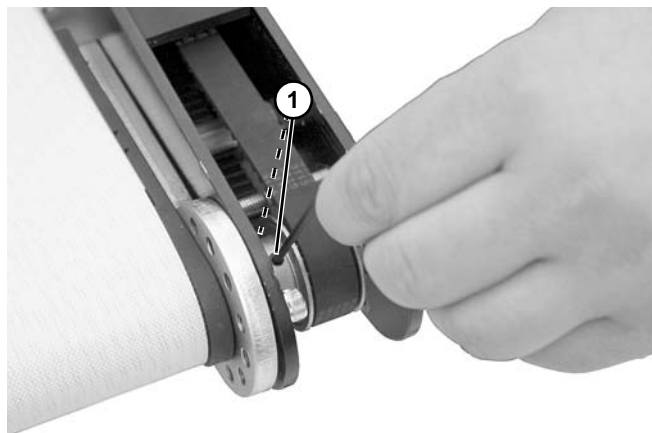

Figure 11
13. Tighten set screws (Figure 11, item 1).